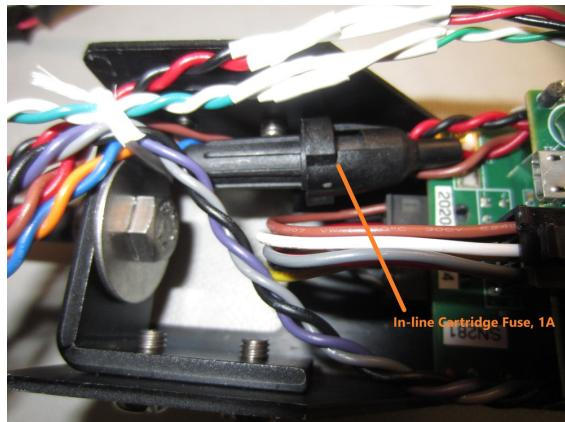

Figure 39: Input fuse wired in-line between the rear bulkhead and the Rockland Data Logger board for instruments with R01 or R02 RDL boards.
1. For the instruments equipped with a R01 or R02 P113 RDL board there is an input power fuse wired between the rear bulkhead and the Rockland Data Logger board (Figure 39). Check the fuse on a R01 or R02 can be done by opening the fuse holder and removing the cartridge fuse. The fuse is blown if the fine wire inside the glass body is broken, or if a measurement across the fuse indicates "open" on the multi-meter. For instruments equipped with the R03 P113 board there is a resetting fuse on the board. There is no in-line cartridge fuse in the wiring. If the instrument fails to turn on when the main battery is fully charged this fuse may have tripped. Wait 15 minutes for the fuse to reset before trying again. If the resetting fuse trips again there is a problem elsewhere in the electronics that is causing the high current draw. Contact Rockland for support.